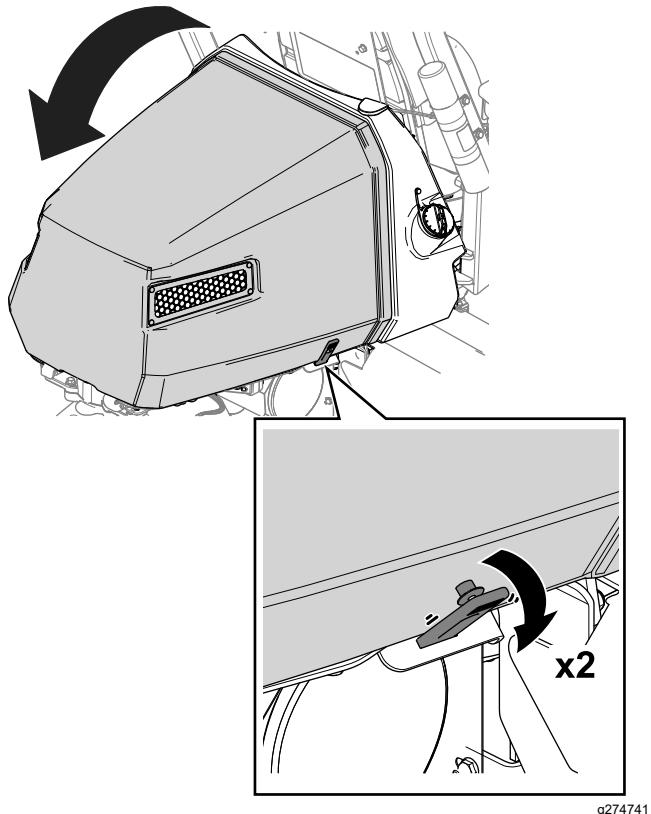

Figure 40
1. Release the straps from each side of the hood (Figure 40).
2. Raise the hood (Figure 40).